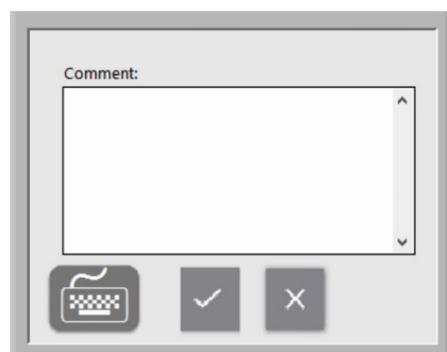

Figure 35 - Comment Window
- d. If desired, a comment can be added to the Assay Results.pdf by tapping on the Add Comment button and adding a comment in the resulting Comments window as illustrated in Figure 35.